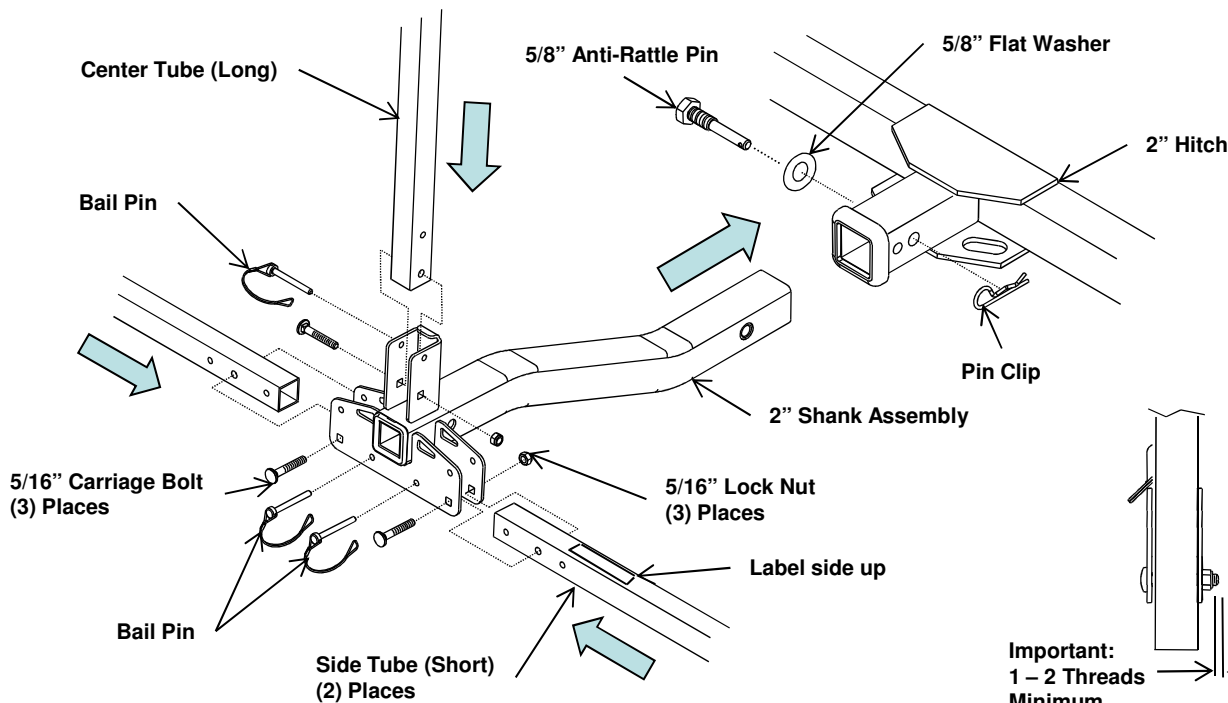

FIGURE 1.
3. Rotate side tubes to the horizontal position as illustrated. Align holes in plates and side tubes and secure tubes in position with bail pins as shown (Figure 1).